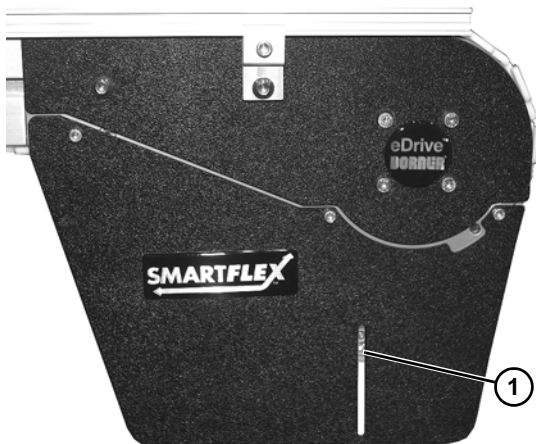

Figure 33
*Before inserting belt rod to connect belt ends, be certain that the slack on belt is showing in slotted area (**Figure 33, item 1**) on convey or drive end.*